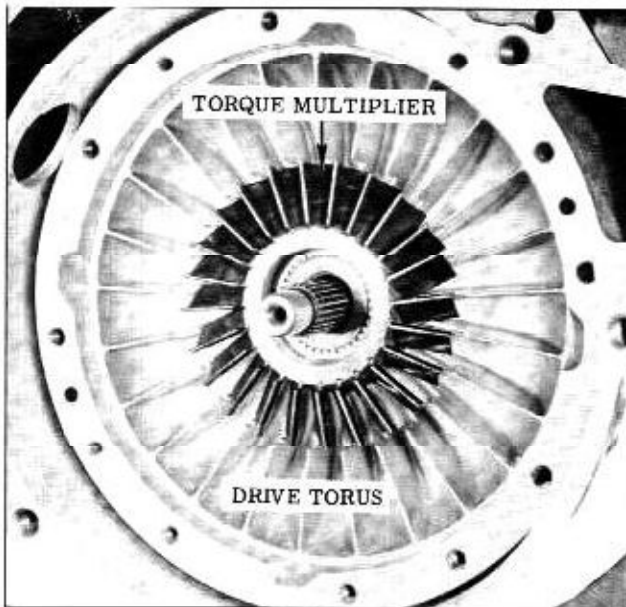

Fig. 3-120 Torque Multiplier Installation
4. Install torque multiplier into drive torus aligning splines and position torque multiplier so that the I.D. of the hub of the torque multiplier is flush with the planet carrier shaft. (Fig. 3-120) A light tap with a plastic hammer may be required.